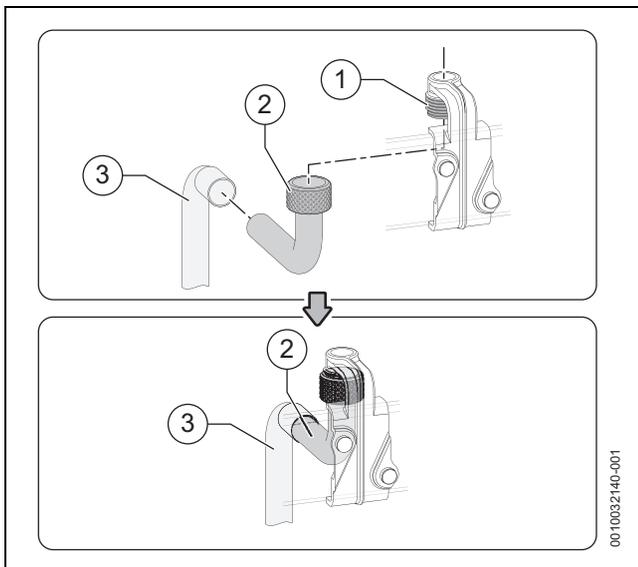

Fig. 45 PRV connection preparation
- ▶ Fit the PRV pre-plumbing connector [2] to the PRV locator bracket [1] as shown in the figure 45.